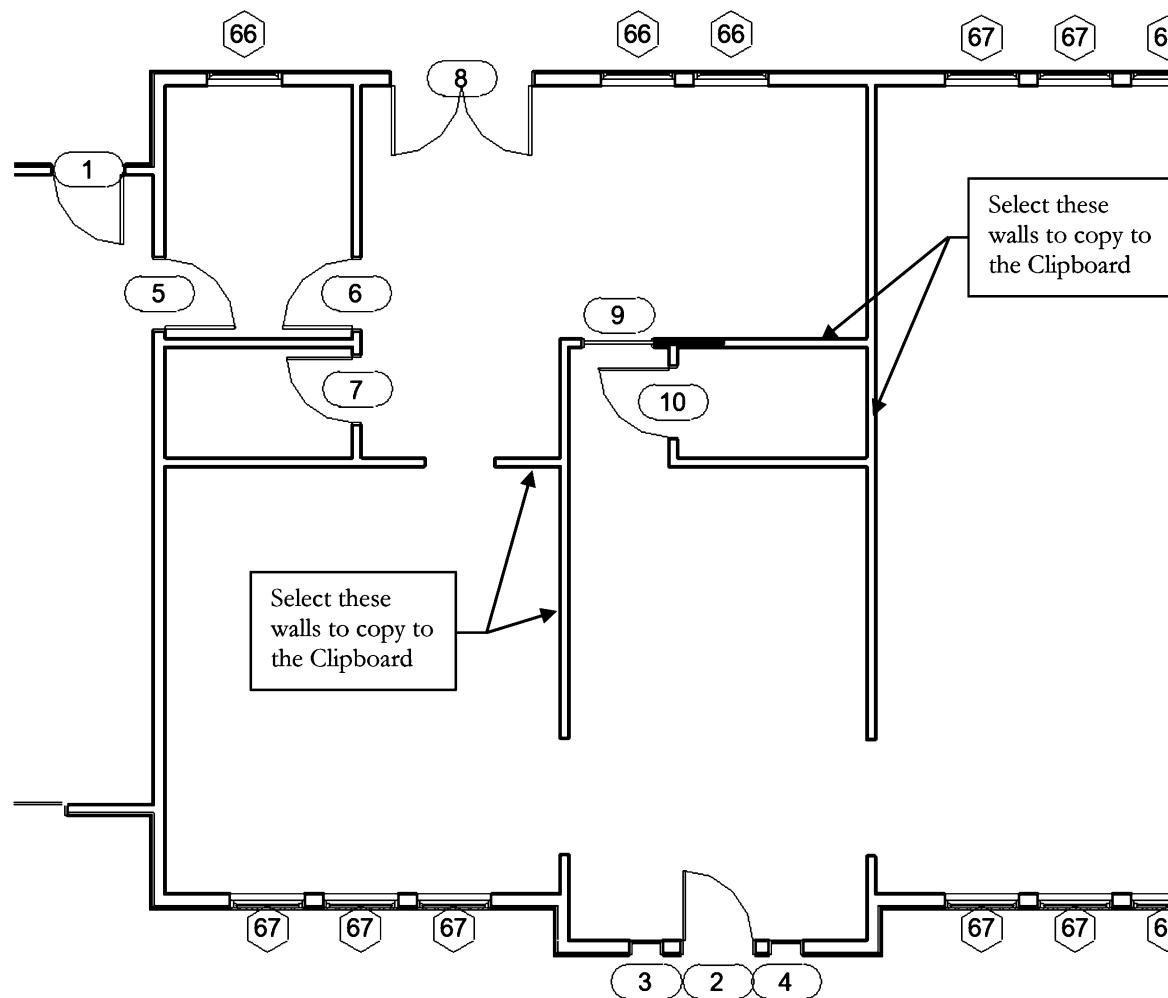

FIGURE 6-2.1 First Floor: Selected walls, (4) total, to be copied/pasted to the Second Floor
2. Hold down the **Ctrl** key; select the four walls identified in Figure 6-2.1.